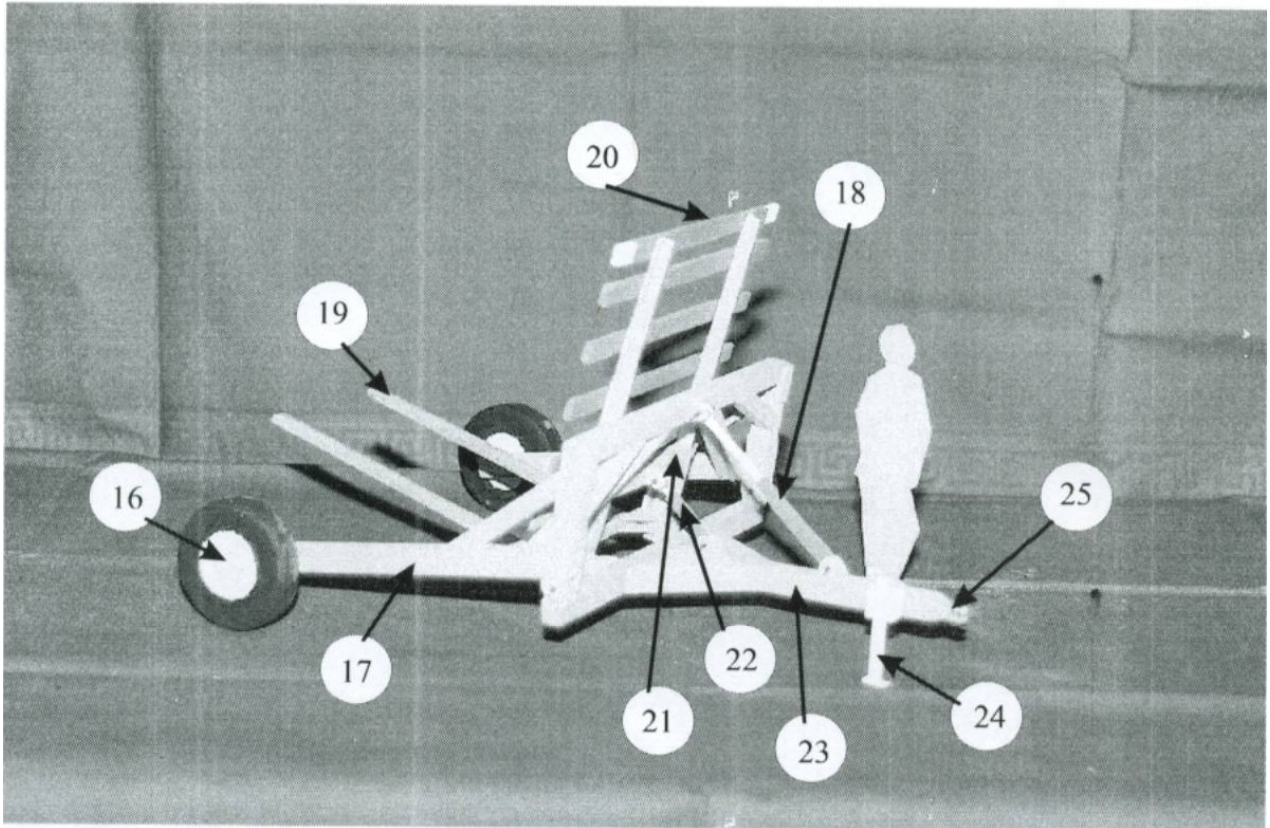

Fig. 4
- Fig. 4 Hay pallet lifting trailer: front view